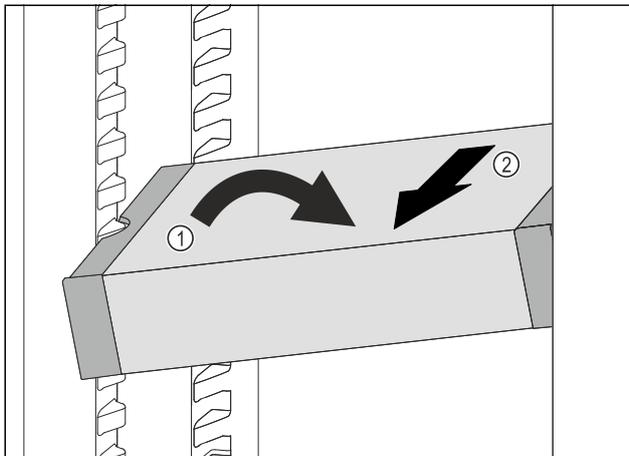

Fig. 109
- ▶ Set VarioSafe in refrigerator compartment at an angle. Fig. 109 (1)
- ▶ Take VarioSafe out to the front. Fig. 109 (2)